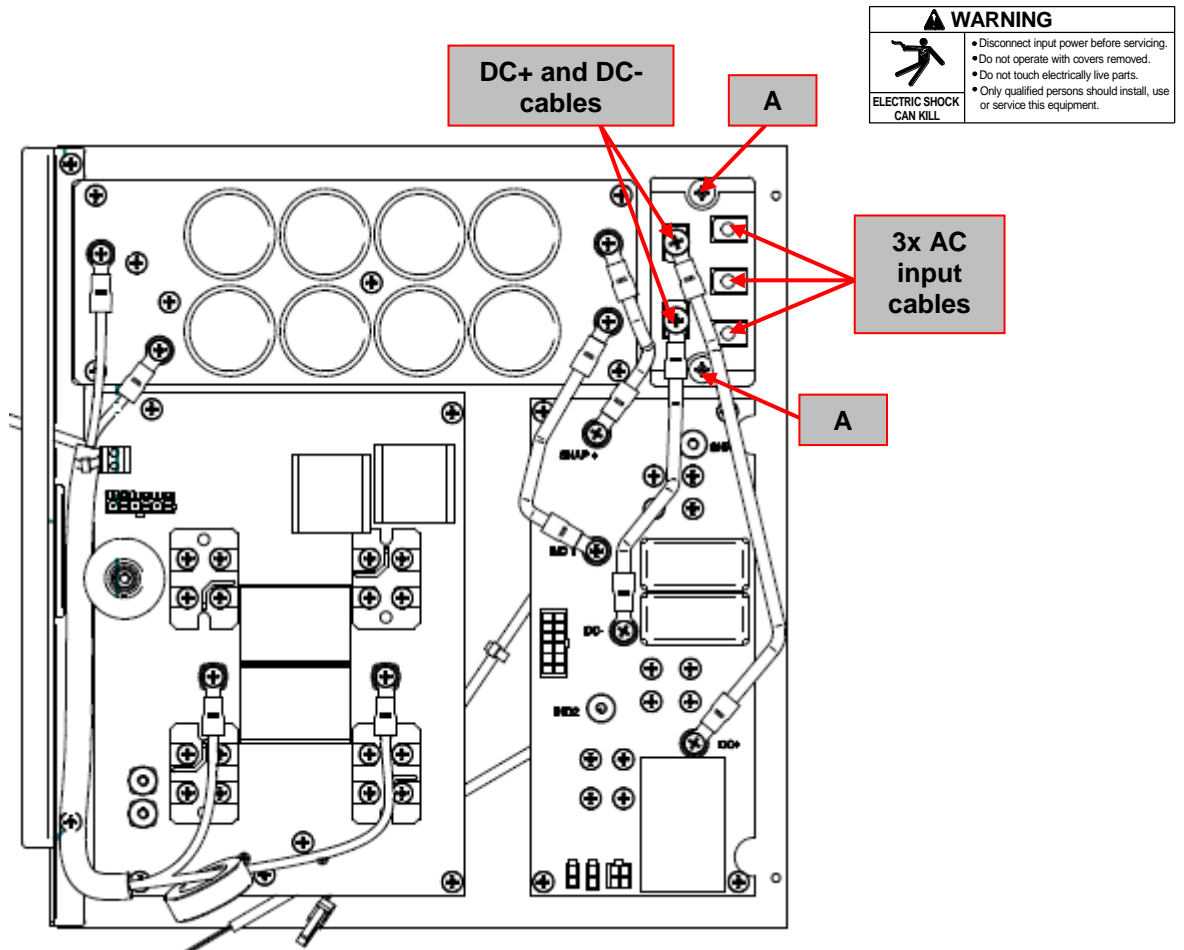

Figure 24
3. Locate the 3 phases input rectifier bridge W6814030 on the right side of the machine. See **Figure24**
4. Using a Phillips screwdriver PH02 remove the 3 AC input cables and the 2 output DC+ and DC- cables from the 3 phases input rectifier bridge. See **Figure 24**
5. Using a Phillips screwdriver PH02 remove the 2 screws (**A**) that fix the 3 phases input rectifier bridge to the heat sink. See **Figure 24**